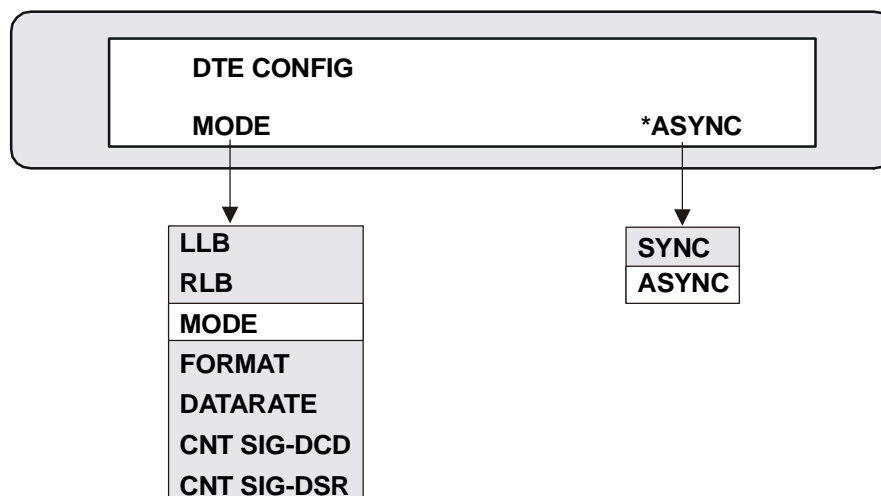

Figure 4-5. Selecting Transmission Mode
4. Press the SCROLL button until MODE is displayed (see Figure 4-5).